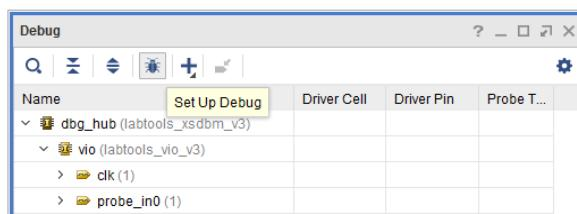

Figure 11.20: Set Up Debug button
20. In the **Debug** window, select **Set Up Debug** button to launch the wizard, see Figure 11.20.